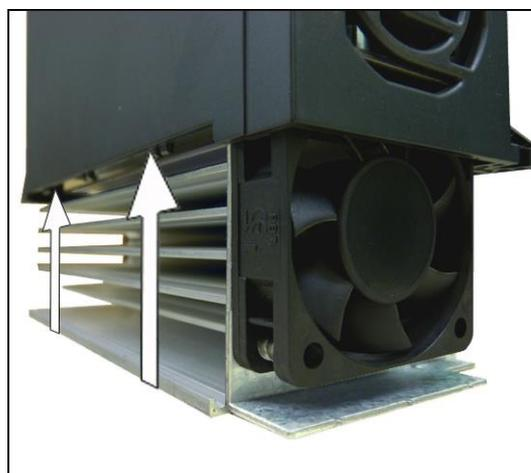

Fig. 3.42
11. Separate the inverter's plastic protector from the metal base (Fig. 3.42).